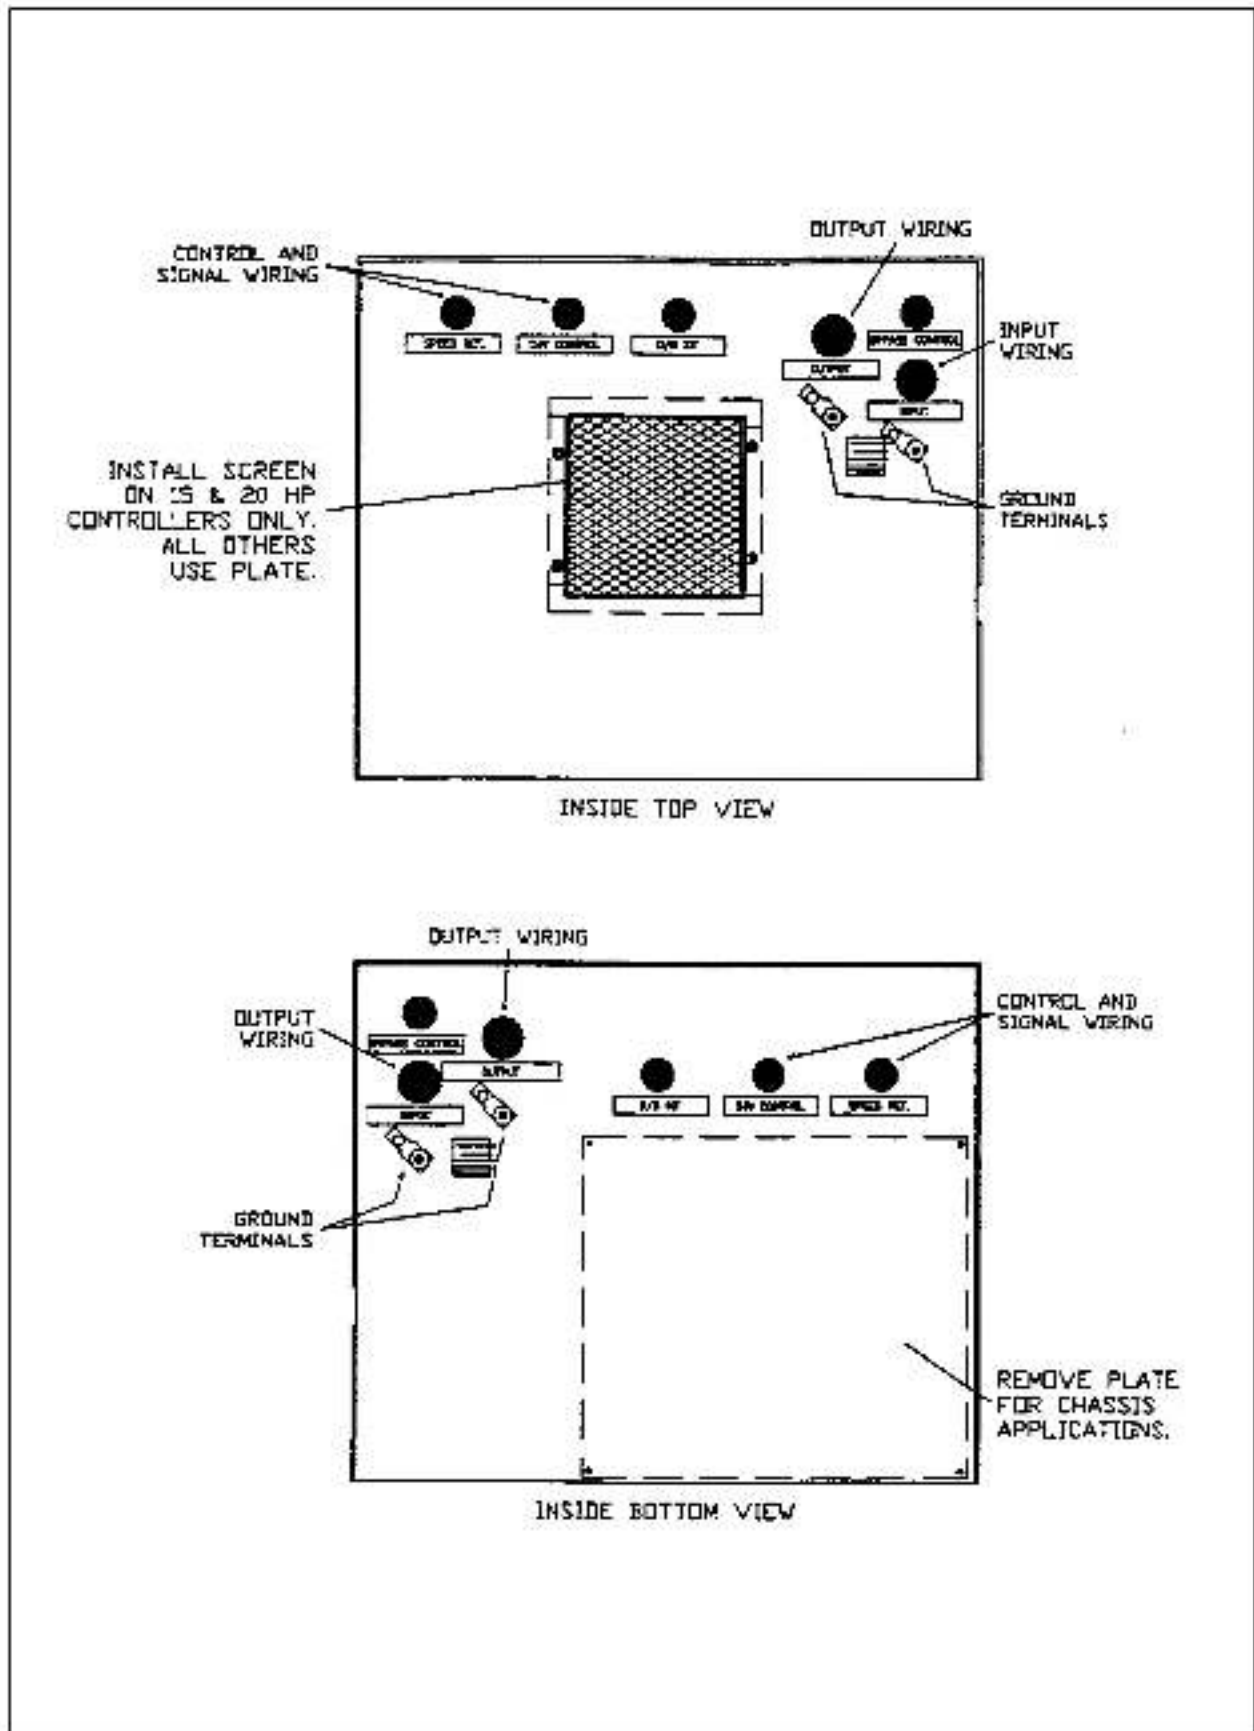

Figure 3. Expanded Cabinet Wiring Entrance Locations and Ground Terminals.
4. For 460-volt 15 and 20 HP units, remove the plate from the top of the Expanded Cabinet. Add the screen in place of the plate. (See Figure 3.) The heatsink opening for the 15 and 20 HP controllers should align with the screened opening.
2. Run a suitable equipment grounding conductor **unbroken** from the controller ground terminal (Figure 3) to the grounding electrode conductor.
4. When required by code, the 24 VDC Stop/Start circuit can be grounded. Run a suitable grounding conductor unbroken from terminal 19 to the controller ground terminal. (See Figures 3 and 4.)
1. Route the wiring through the openings indicated on the bottom or top of the Expanded Cabinet. Refer to Figure 3 for conduit hole opening locations.
4. Route external 120 VAC control wiring (if used) through the Bypass Control openings indicated on Figure 3 in the bottom of the Expanded Cabinet in separate steel conduit to eliminate electrical noise pick-up. The conduit can be rigid or flexible armored steel.
1. Route the leads through the openings indicated in the bottom of the Expanded Cabinet. Refer to Figure 3 for location.